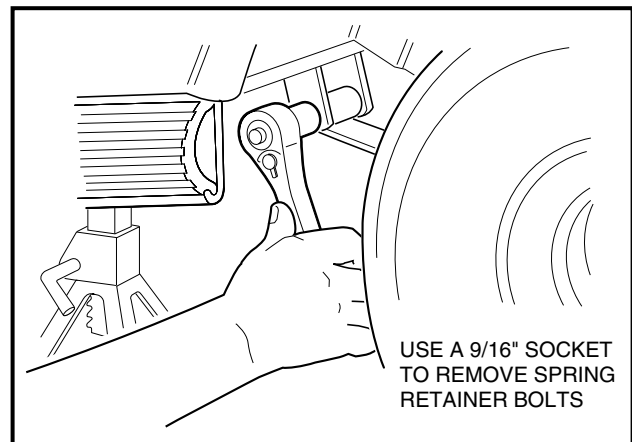

FIGURE 10-24
7. Remove the bolts securing the leaf springs to their front mounts (**Figure 10-24, Page 44**).